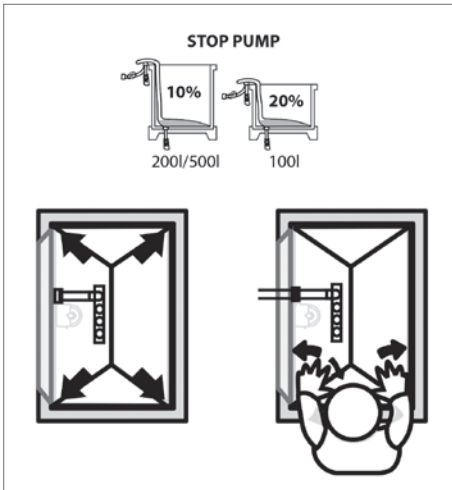

Fig. 21
5. After 10% of the bag's nominal capacity for 200L and 500L or 20% of the bag capacity for the 100L, stop the filling and perform the following steps (see Fig. 21):